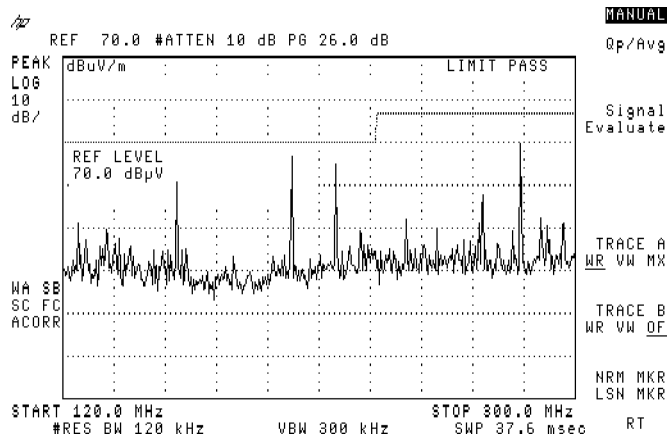
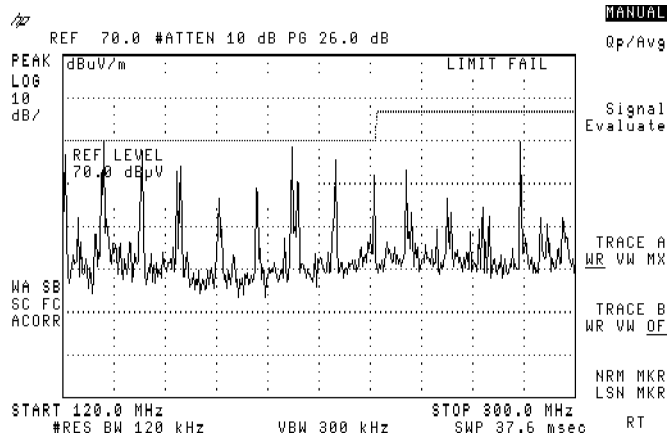

Figure 3-42. Limit Margin with Device under Test Off
Figure 3-43. Limit Margin with Device under Test On
9. Press **LIMIT MARGIN**, 10, **dB** to measure signals that are within 10 dB of the limit line. The limit line may also be selected using the front-panel knob to position the margin with respect to the limit line. See Figure 3-42 and Figure 3-43.